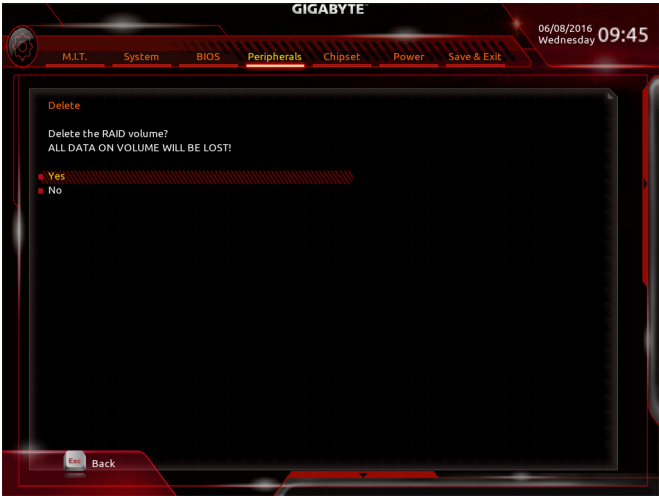

Figure 5
To delete a RAID array, press <Enter> on the volume to be deleted on the **Intel(R) Rapid Storage Technology** screen. After entering the **RAID VOLUME INFO** screen, press <Enter> on **Delete** to enter the **Delete** screen. Press <Enter> on **Yes** (Figure 5).